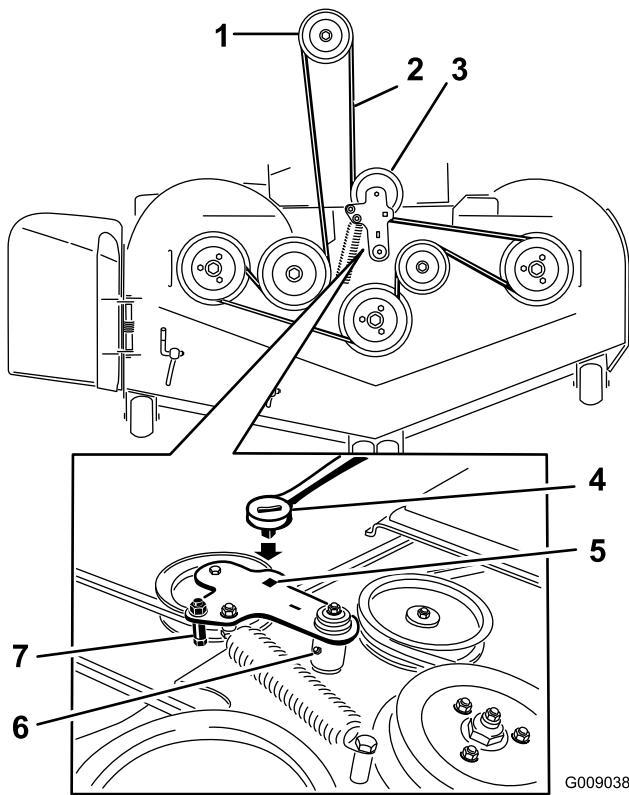

Figure 81
5. Use a ratchet in the square hole in the idler arm to remove tension on the idler spring (Figure 81).
7. Remove the belt guide on the spring loaded idler arm shown in Figure 81.
9. Install the new belt around the mower pulleys and the clutch pulley under the engine (Figure 81).
10. Install the belt guide on the idler arm shown in Figure 81.
11. Using the ratchet in the square hole, install the idler spring (Figure 81).